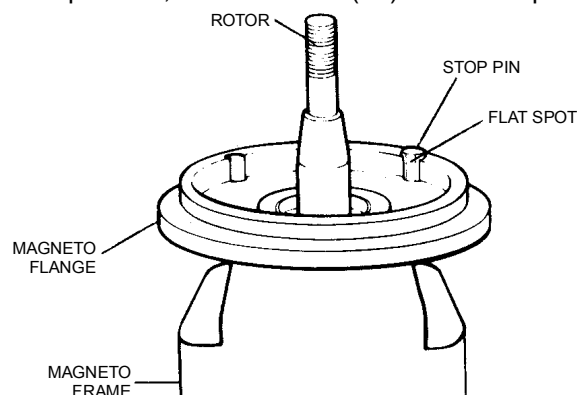

Figure 8.5
- A. Inspect the rotor (10) for damaged or worn keyway, rotor surface, drive end threads, and cam slot.
- B. Check rotor bearing (9) and bearing cap assembly (11) surfaces for wear.
- C. Inspect oil seal (6) contact surface. Shaft should be free from grooves and nicks.
- D. Inspect rotor shaft (10) at impulse coupling (5) location (impulse coupled magnetos only).
1. If the heel of the pawl has struck the shaft and caused the shaft to dimple in excess of .006 inch per side, the rotor shaft (10) must be replaced. (See Figure 8.5).